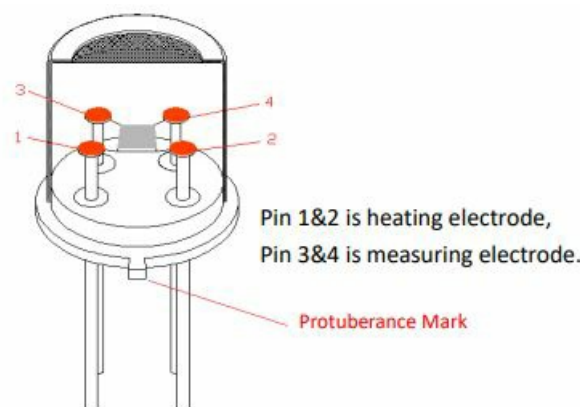

Fig8.Pin Schematic Diagram
- As Fig8. Pin 1&2 connects to the heater circuit, and Pin 3&4 connects to the measuring circuit; Under the requested conditions, heating and measuring can use the same power circuit.